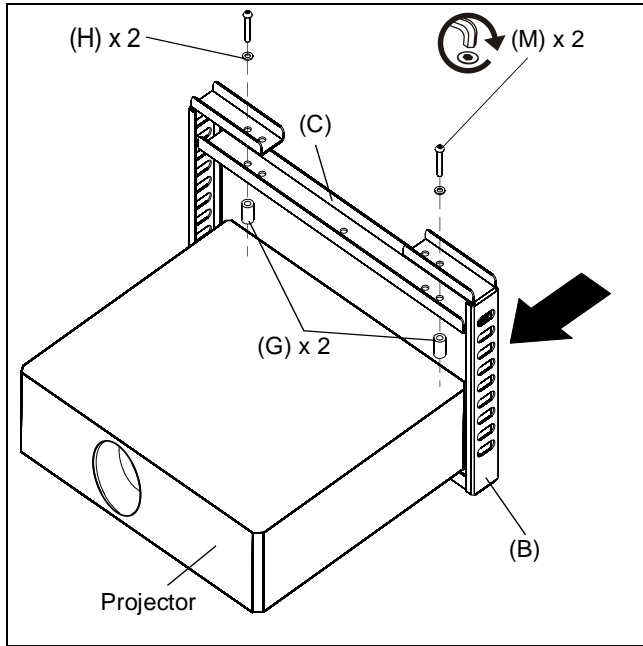

Figure 1
2. Slide bracket (B) along with one bracket (C) over back of projector. (See Figure 1)
3. Attach brackets to projector using two button head cap screws (M), two flat washers (H), and two spacers (G).